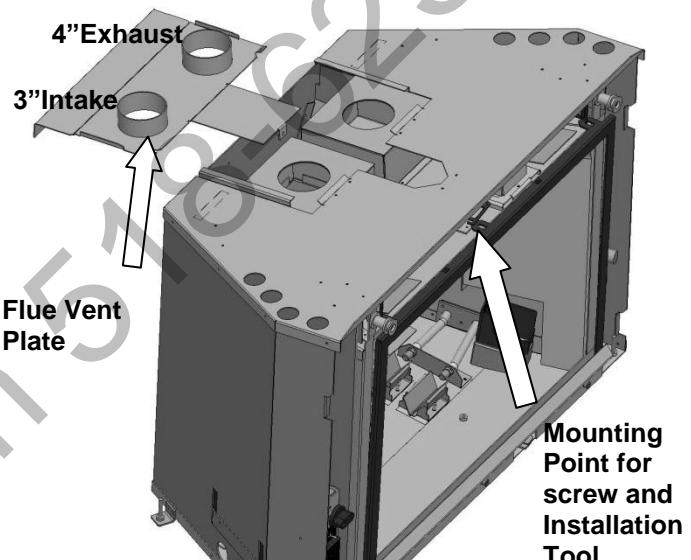

Figure 18
3. Using a Phillips head screwdriver, remove the screw holding the front of the Flue Vent Plate to the firebox. Push the plate carefully back and out of the retaining tracks – take it off the stove as shown (see Figures 18 &19). Keep this screw, as you will need it later to remount the plate.